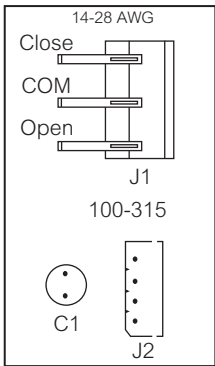
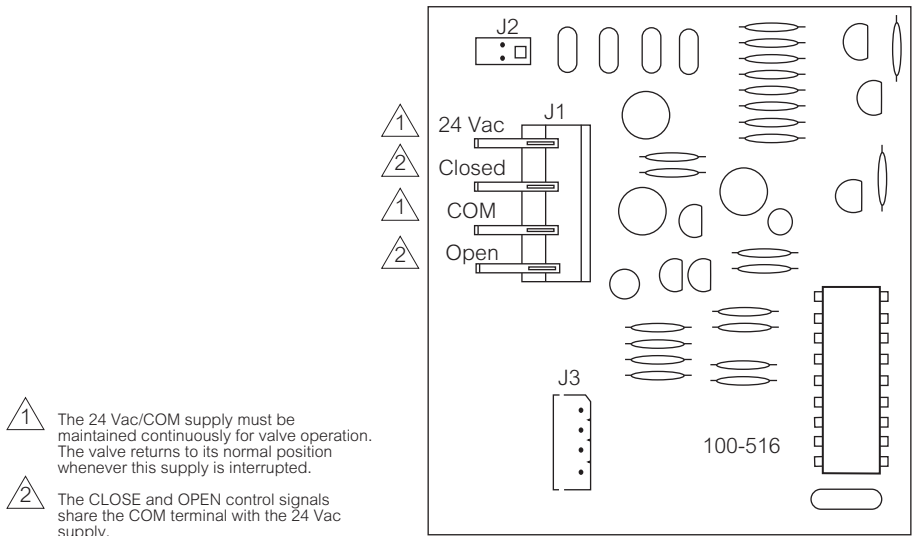

Figure-1 Typical Wiring of Three-Wire Floating Non-Spring Return Valves.
Figure-3 Typical Wiring of Three-Wire Floating Spring Return Valves with Time-Out.
1. Remove the cover from the actuator, then connect the power and control wiring to the terminal block (Figure-1 and Figure-3).